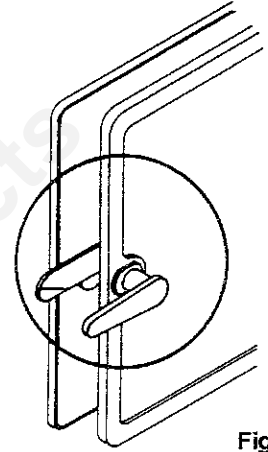

Fig. 12
4. Then to open door, turn the handle counter clockwise to the 9 o'clock position and then continue to pull the door open. (Fig. 12).